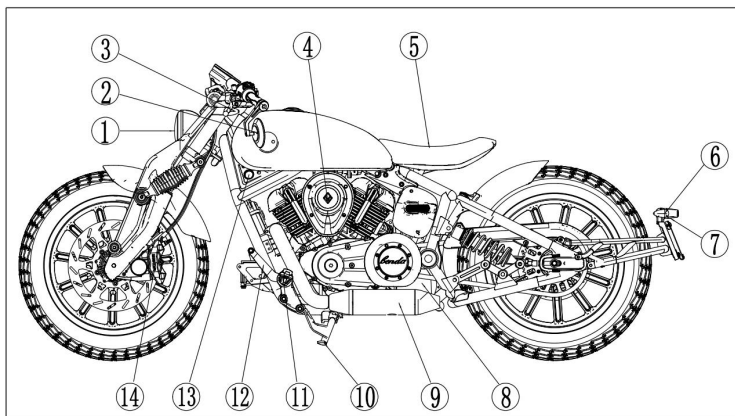

Figure 2
1. Left vehicle body (Figure 2)